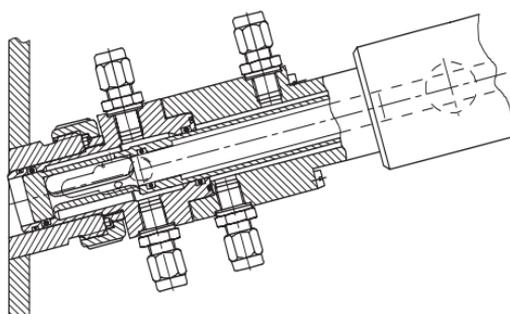

Figure 1.2 "OUT" Position
1. Do not attempt any work on the head part of the housing or the fitted electrode when the housing is installed and in the inserted position, i.e. in the process medium. Such operation should only be carried out when the retractable member is in the retracted position, i.e. the electrode tip must be in the lower rinsing chamber (see Fig. 1.2).
In the twin-chamber lock (see Fig. 1.2), the measuring tip of the withdrawn electrode can be cleaned, serviced if necessary and then sterilized with steam. In contrast to single-chamber designs, the twin-chamber arrangement ensures that after sterilization the lower rinsing chamber adjacent to the process medium remains sterile when the electrode is inserted. This is because the portion of the retractable member arriving in the lower rinsing chamber as the electrode is being inserted, has first been sterilized in the upper rinsing chamber.